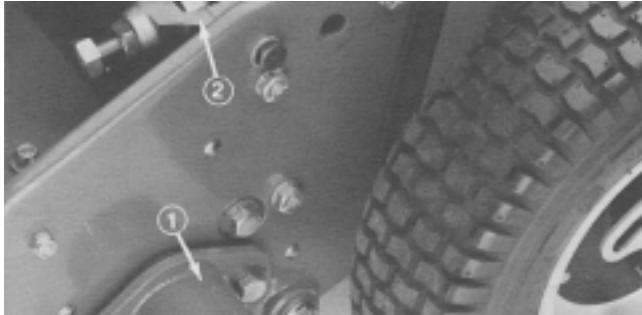

Figure 2
4. Remove (2) capscrews securing end cap to left reel bearing housing and side plate of machine. Remove end cap. Retain end cap and mounting screws for use if groomer is ever removed (Fig. 2).
5. Remove (2) capscrews and washers securing left bedbar adjuster frame to side plate (Fig. 2).